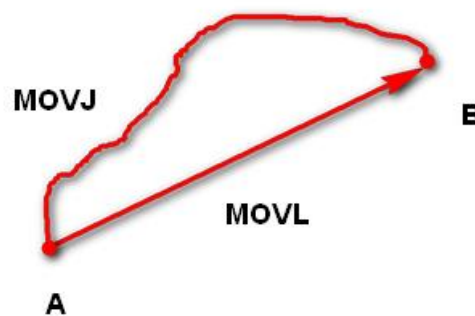

Figure 3.7 MOVL/MOVJ mode
- **MOVJ**: Joint movement. From point A to point B, each joint will run from an initial angle to its target angle, regardless of the trajectory, as shown in Figure 3.7.
- **MOVL**: Rectilinear movement. The joints will perform a straight line trajectory from point A to point B, as shown in Figure 3.7.